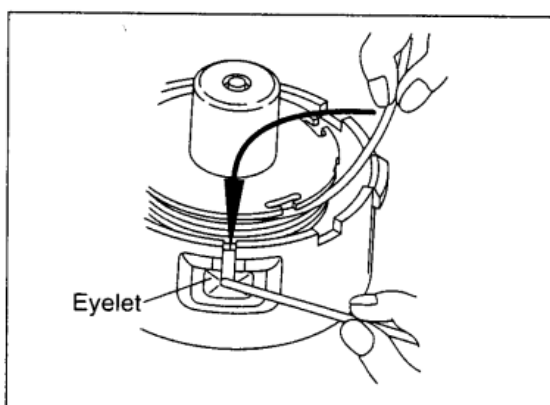

Fig. 27
6. Unhook the ends of the cord from their temporary position and feed the cords out through the eyelets in the side of the housing (Fig. 27).